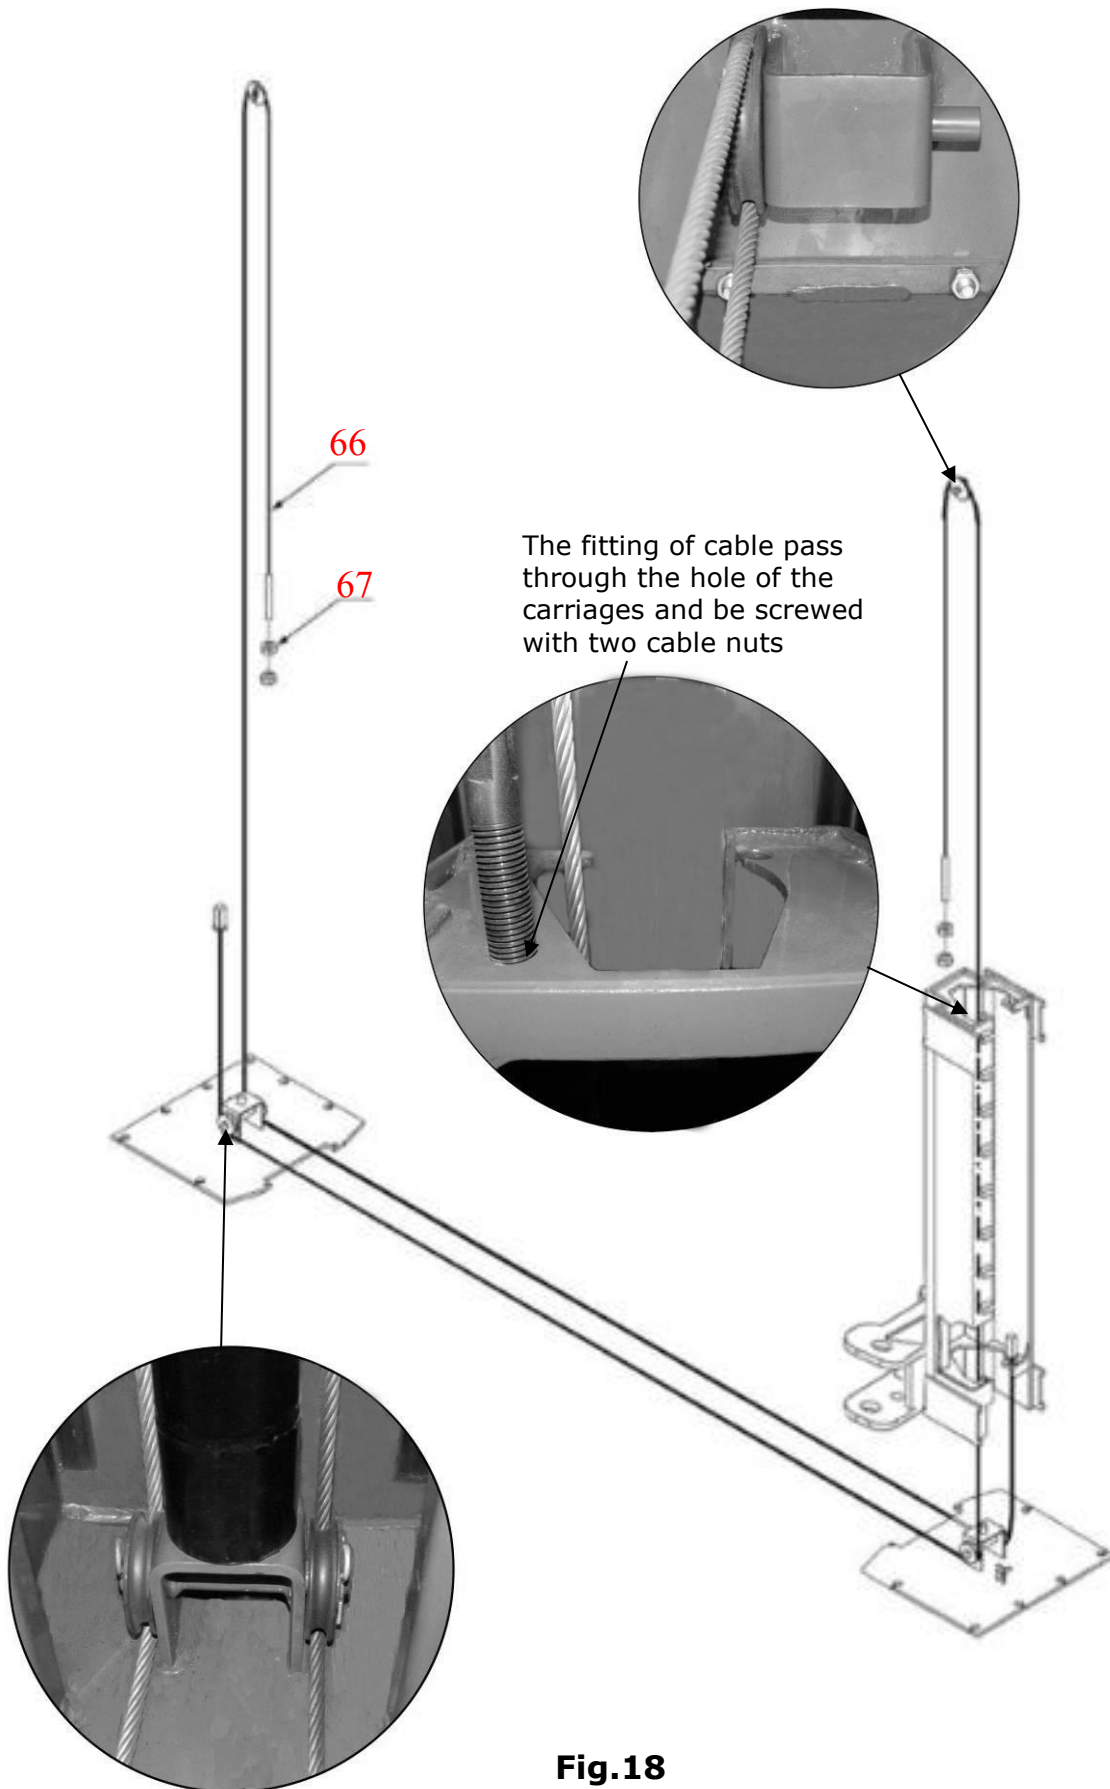

Fig.18
2. Assemble cables (See Fig. 18)